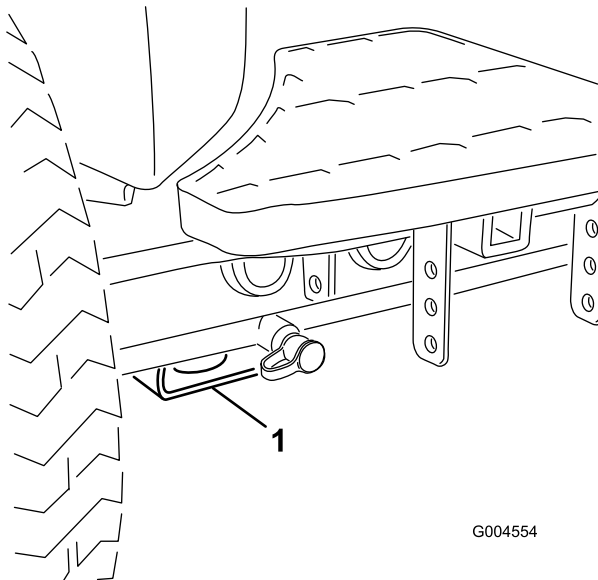

Figure 56
- Front—rectangular pad, under the axle tube, inside each front tire (Figure 56).